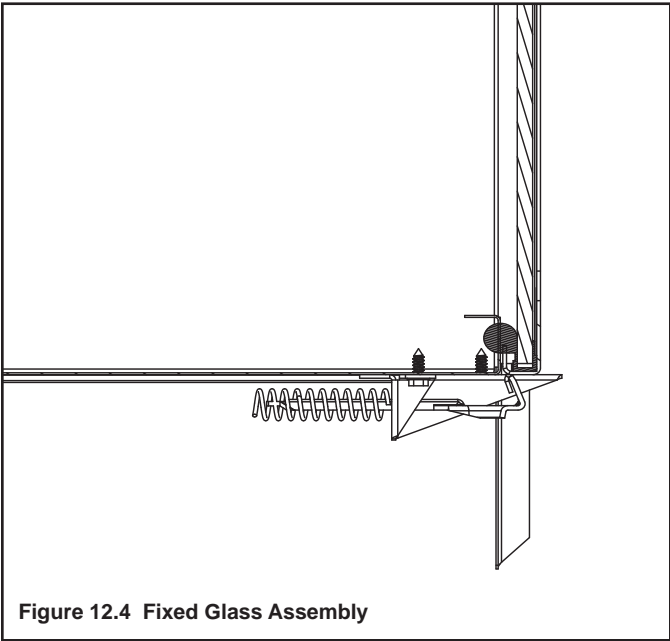

Figure 12.4 Fixed Glass Assembly
- The glass assembly fastens to the fireplace in four places. Four of the fastening mechanisms are spring-loaded glass latches. An example of the glass latch is shown in Figure 12.4.